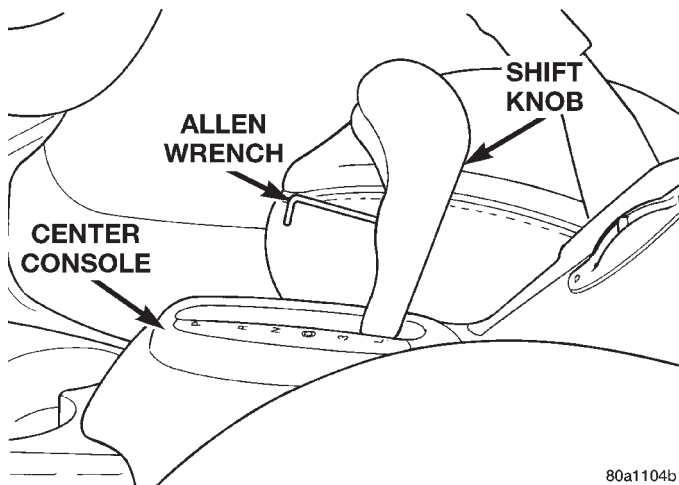

**Fig. 130 Shift Knob Retaining Screw**
(14) Install the shift knob on the shifter. Install and securely tighten the shift knob retaining screw (Fig. 130).
(1) Remove the shift knob from the shifter. The gear shift knob is attached to the shifter using a set screw (Fig. 130). Access to the set screw is from the front of the shift knob and is removed using a 2 mm allen wrench.